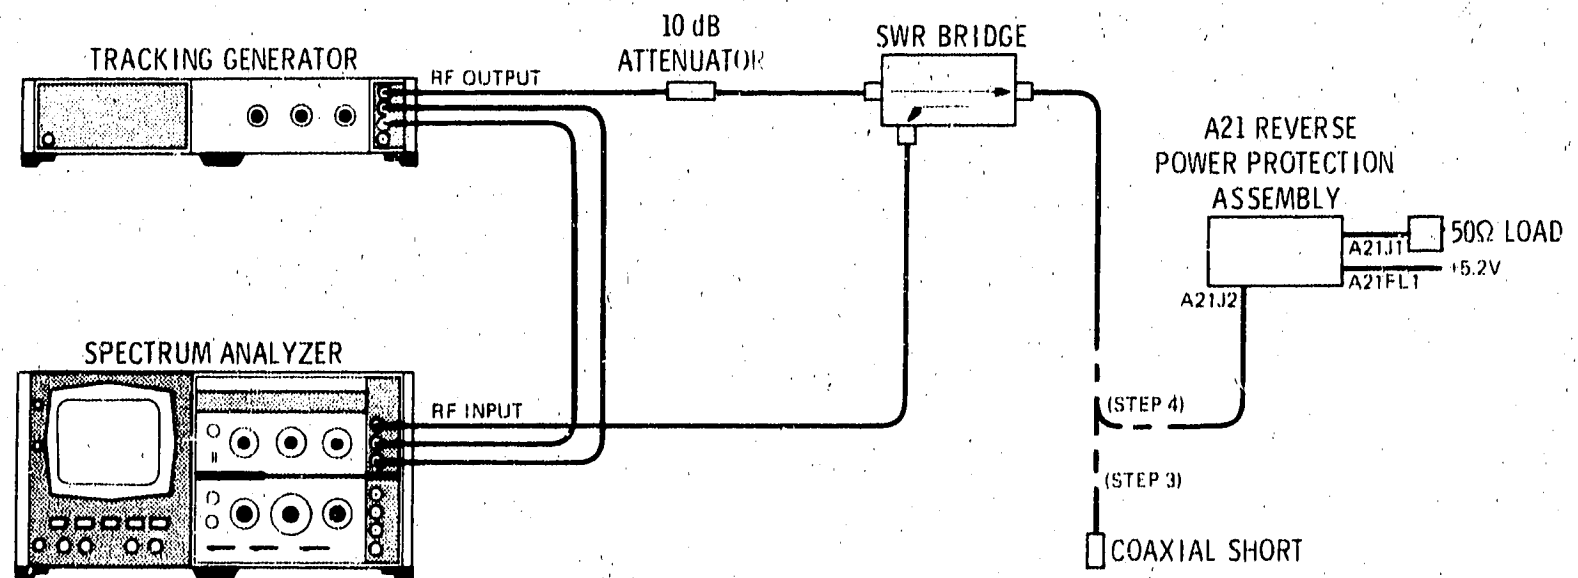

Figure 5-12. Output Impedance Adjustment Test Setup
2. Connect equipment as shown in Figure 5-12.